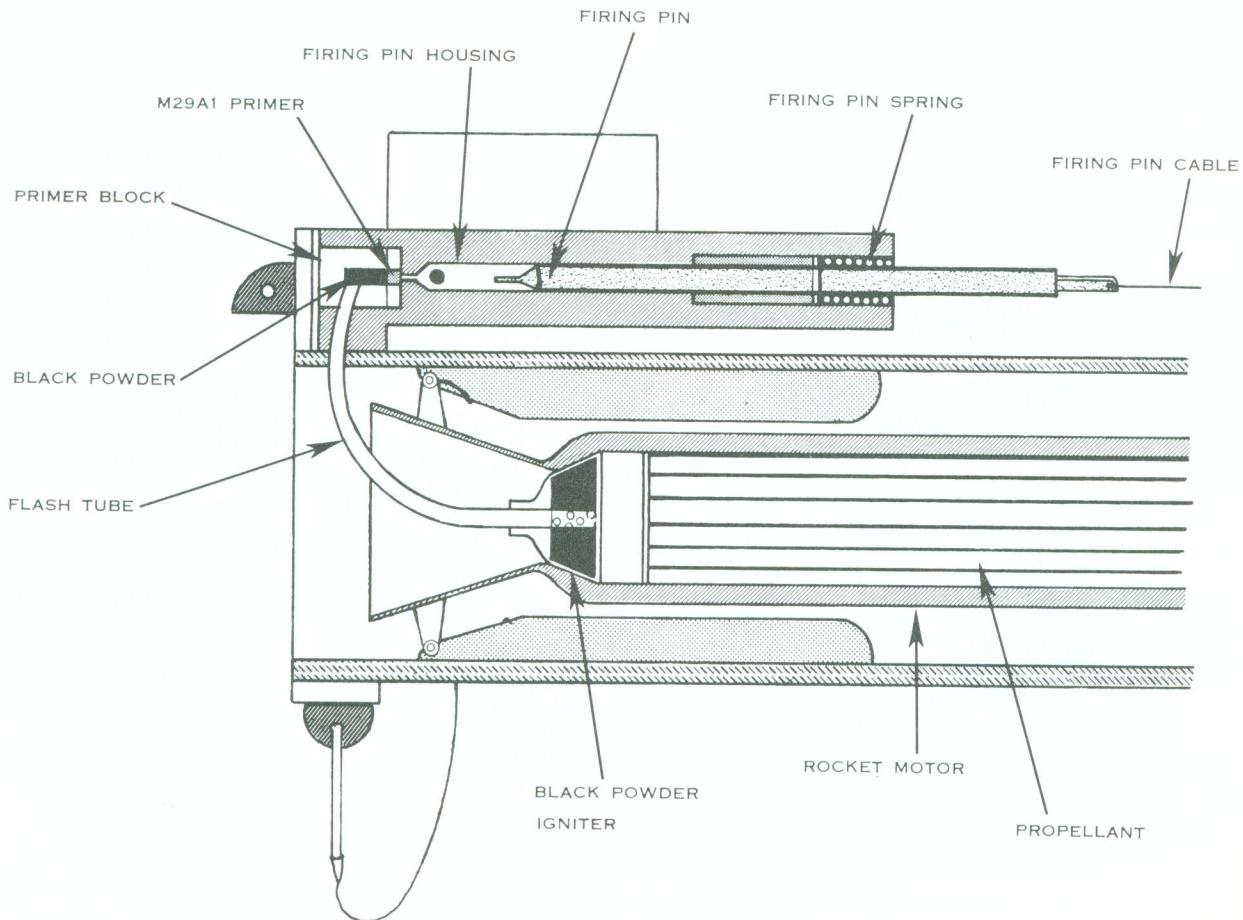

Figure 11. Rocket motor ignition system.
*b. Rocket Motor Ignition System.* The rocket motor ignition system (fig. 11) for the M72 is composed of the following elements: firing pin housing, firing pin and firing pin spring, M29A1 percussion primer, primer block with black powder flash charge, flash tube, and black powder igniter. The following sequence takes place as the unit is cocked and fired: The firing pin spring is compressed as the inner tube is extended and locked into position (fig. 11). When the trigger is actuated, the firing pin is released and strikes the center of the M29A1 primer with sufficient force to detonate the primer. The flash from the primer ignites the flash charge located directly behind the primer in the primer block. The ignited black powder generates a flash or flame which travels within the plastic flash tube to the igniter. The flame is dispersed within the